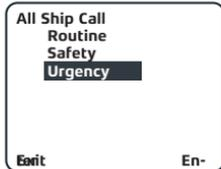

Figure 22
3. Select from **Routine**, **Safety** or **Urgency** and press **Enter** (fig 22).